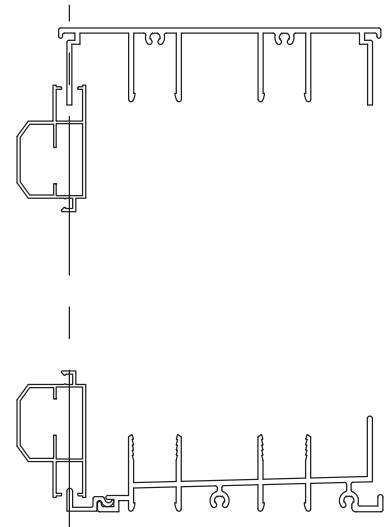

Figure 32
1. Position panel so that top of panel slips onto frame header fin. Swing bottom of panel in until bottom of panel is aligned over sill add on fin and set panel roller on fin. (See Figure 32)